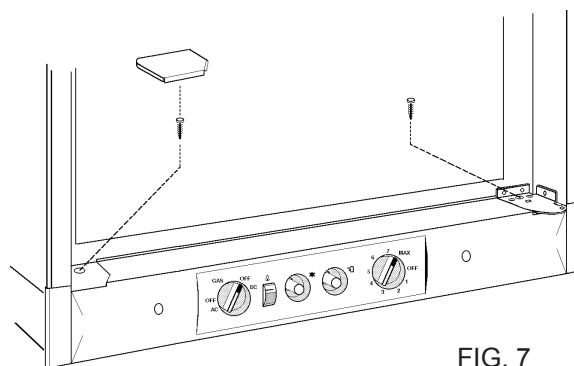

FIG. 7
- a) Secure the refrigerator to the floor with two screws: One screw through the hinge and into the floor, and on the opposite side one screw through the front base, see fig. 7.